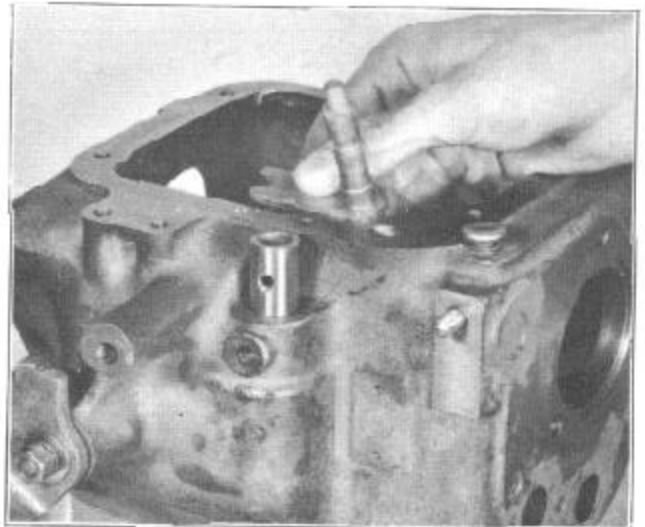

FIGURE 15
23. Remove shift selector shaft from inside of case. Remove steel bushing by pulling upward, Figure 15.
4. Apply a few drops of oil to shift-shaft, then insert shaft in case and lock in position with shift-shaft pin, Figure 15. Install the rubber sealing washer, outer shift lever, plain washer, shakeproof washer, and nut and tighten securely. If more than a slight drag is felt when rotating shaft, check oil seal for interference.